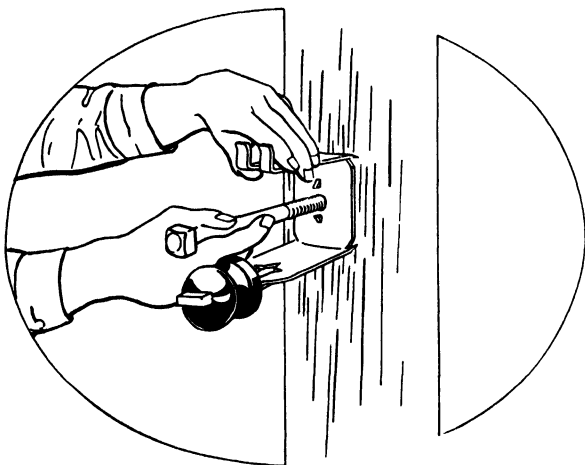

Fig. 16-10. Showing manner of inserting through bolt used to fasten Sagger bracket to pole. (Courtesy Hubbard & Co.)
**Vertical-bracket Construction.** Another type of vertical secondary construction makes use of the so-called patented Sagger bracket illustrated in Fig. 16-9*a* and *b*. In this type of support each conductor is supported separately by a bracket fastened to the pole with a through bolt, as shown in Fig. 16-10. The bracket is in the open position when the bolt is inserted. Bolt-head locks are provided to prevent the bolt from turning while the nut is being tightened. Since each bracket is separately supported, the bracket units may be mounted at any spacing and in whatever number that is required.